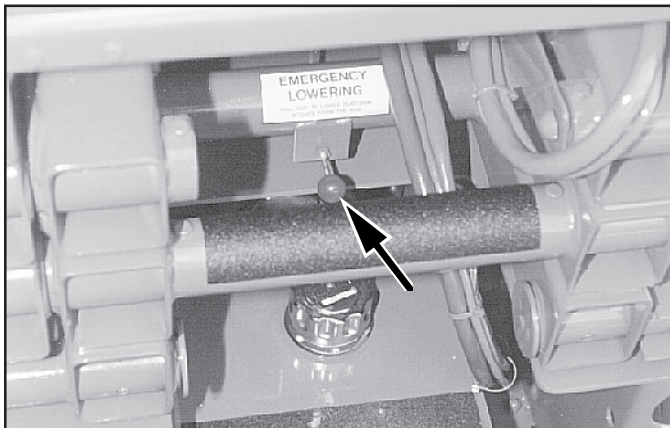

Figure 3: Emergency Lowering Valve Knob
14. Open the Chassis Emergency Lowering Valve (Figure 3) to check for proper operation, by pulling the knob out. When the platform is lowered, release the knob.
The Emergency Lowering Valve Knob is located between the scissors at the rear of the machine (Figure 3).